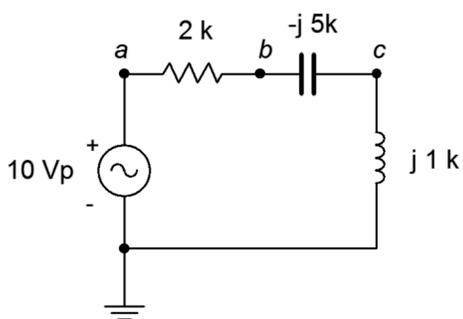

Figure 2.23
41. For the circuit of Figure 2.23, determine  $v_b$ ,  $v_c$  and  $v_{ac}$ .  $E$  is a 10 volt peak 15 kHz sine.